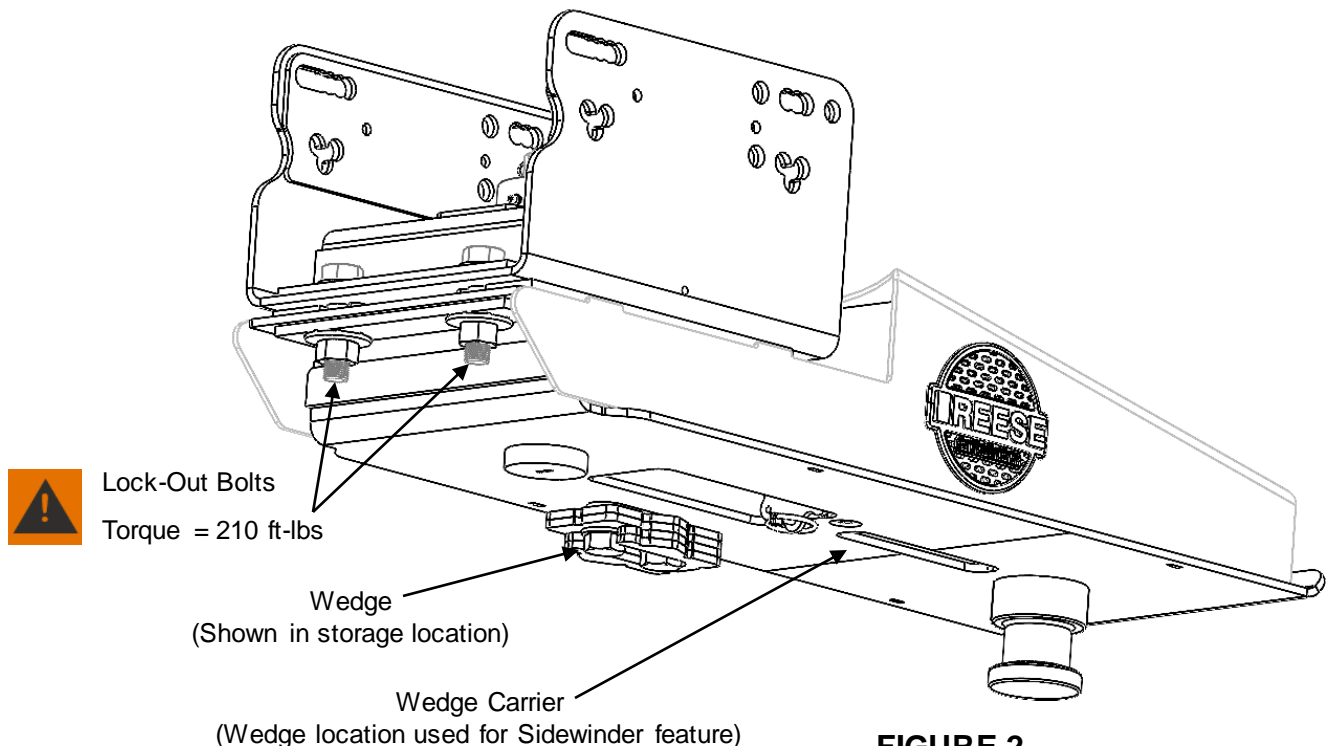

FIGURE 2
The Sidewinder comes from the factory as a conventional pinbox. Lock-out bolts, (2) 3/4" Grade 8 bolts, are installed and the wedge in the storage position (See Figure 2). These may or may not be removed by your installer. If used with the wedge & lock-out bolts installed at the same time, or without one or the other installed, damage to your trailer and/or truck may occur.